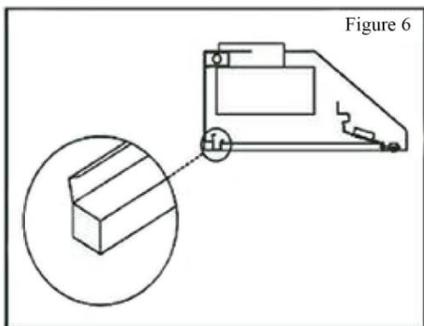

Figure 6
6. Drop oil tunnel into recess support near rear of hood. Refer to figure 6.